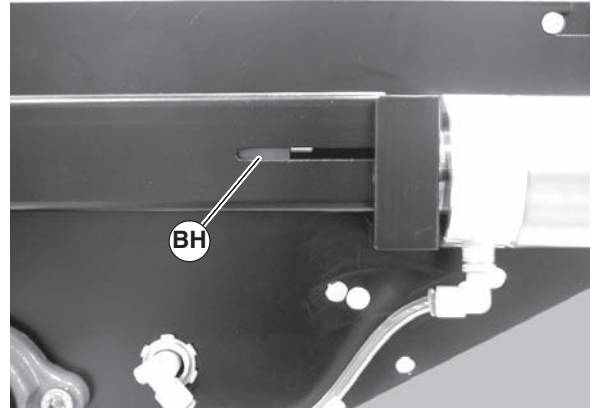

Figure 35
3. If proper belt tension cannot be achieved before the out of tension indicator (Figure 35, item BH) begins to turn red, the belt must be replaced.